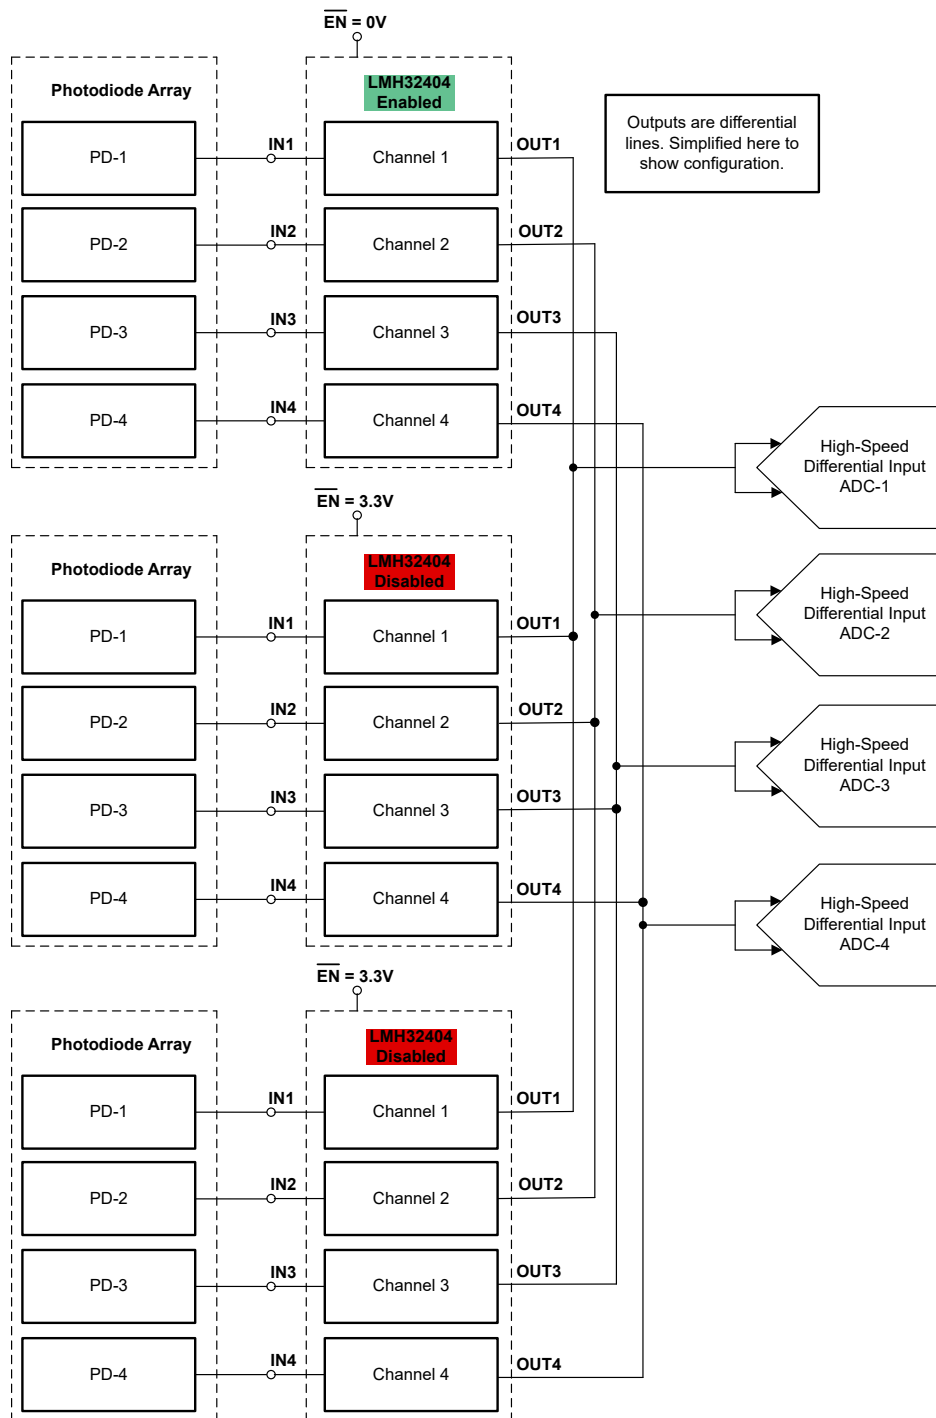

图 7-4. Configuring Three LMH32404 Devices to Drive Four ADC Channels
**Figure 7-4** shows how this device feature can further save board space and cost by eliminating the need for discrete high-speed multiplexer in a system that consists of several amplifier channels multiplexed to a single ADC channel. When switching between different channels, the LMH32404 has a transition time of 10 ns (typical). The disabled channel outputs are high-impedance so multiple amplifier outputs can be directly shorted to each other. If one channel is enabled and other channels are disabled, the disabled channels will not load the enabled channel. This further makes the LMH32404 easy to use in photodiode array applications.
If a system consists of high number of amplifier channels multiplexed to a few ADC channels. 图 7-4 shows how this device feature can further save board space and cost by eliminating the need for a discrete high-speed multiplexer. The disabled LMH32404 outputs are high-impedance so multiple LMH32404 device outputs can be directly shorted to each other. If one LMH32404 device is enabled and others are disabled, the disabled devices will not load the enabled device. This further makes the LMH32404 easy to use in photodiode array applications.